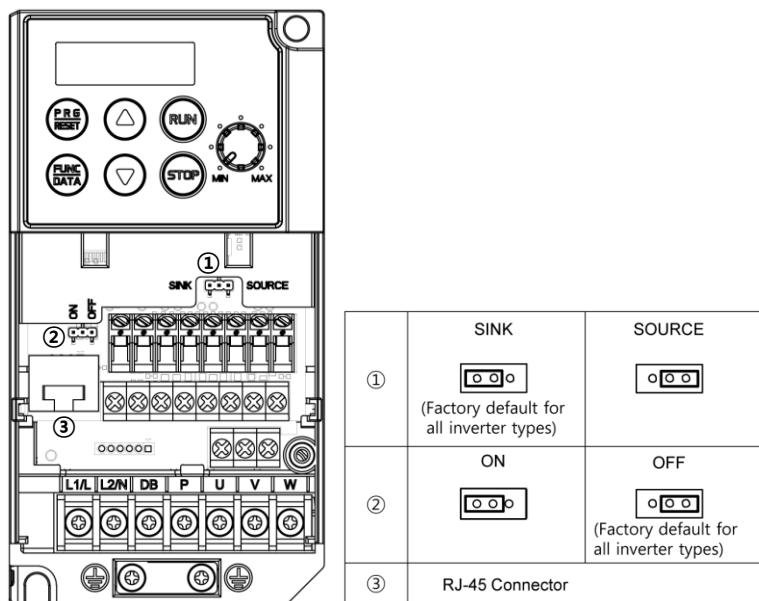

Figure 2.11 Locations of Jumper Switches and RJ-45 Connector
| communication | <p>RJ-45 connector (RS-485)</p> | | <ol style="list-style-type: none"> Used to connect an optional keypad to the inverter. Used to connect the inverter to a computer running Loader via the RS-485 communications link. (For the terminating resistor, refer to Section 2.3.7.)  <p>Figure 2.10 RJ-45 Connector and its Pin Assignment</p> <p>*Pins 1, 2, 7 and 8 are exclusively assigned to power lines for an optional keypad. When connecting any other device to the RJ-45 connector, do not use those pins. For the location of the RJ-45 connector, refer to Figure 2.11 "Locations of Jumper Switches and RJ-45 Connector."</p> |
Switching the jumper switches (shown in Figure 2.11) allows you to customize the specifications of the digital I/O terminals and the RS-485 communication terminating resistor.
| ① SW10 | <p>SINK/SOURCE switch for digital input terminals</p> <ul style="list-style-type: none">• To use digital input terminals [X1] to [X3], [FWD] and [REV] in the SINK mode, set a jumper in the sink position, to use them in the SOURCE mode, set a jumper in the source position. (See Figure 2.11.)• To switch between SINK and SOURCE modes, use a mini needle-nose pliers or the similar tool to change the mounting position of the jumper. |
Figure 2.11 shows the locations of jumper switches and the RJ-45 connector.